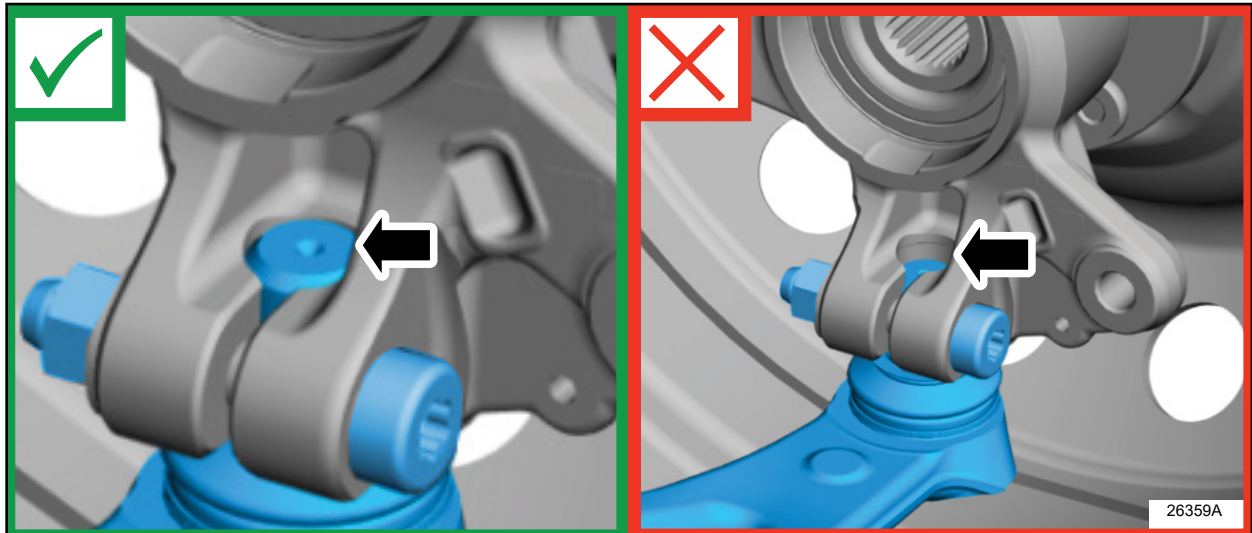

FIGURE 2
2. Inspect the LH lower control arm-to-steering knuckle connection to make sure the ball joint is fully seated. See Figures 2 and 3. **Verify steps a. through c. below:**
- a. **Flush Fitment (Verify by Feel):** Run your finger over the top of the steering knuckle. The end of the ball joint shaft must feel completely flush (flat) with the top surface of the knuckle. See Figure 2.
4. Inspect the RH lower control arm-to-steering knuckle connection to make sure the ball joint is fully seated. See Figures 2 and 3. **Verify steps a. through c. below:**